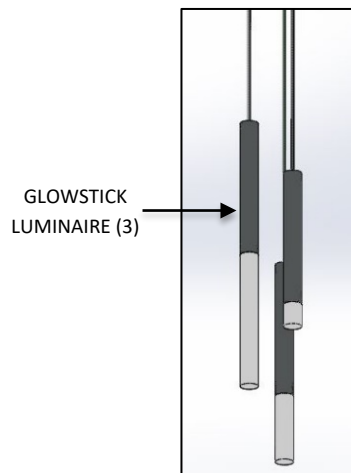

FIG.2 GLOWSTICK LUMINAIRE (PRE-ASSEMBLED)
1. GLOWSTICK LUMINAIRE (3) with CORD attached. (Pre-assembled as shown in FIG. 2)